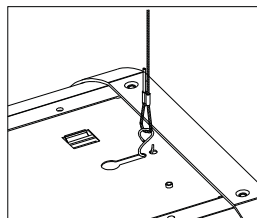

Figure 9
- 6) While supporting fixture assembly, attach "S" hooks (4) to housing. Slide hooks through openings on top of Housing (1) and crimp both ends of hook.-(See Figs.9 and 10)